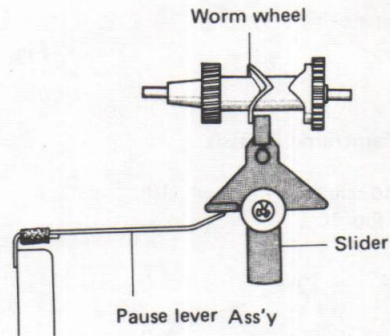

Fig. 19
- 2) If space occurs between pause spring and slider due to strong pause spring contact with the slider, bend the pause spring so that the slider becomes lightly contacted. (Refer to Fig. 19)